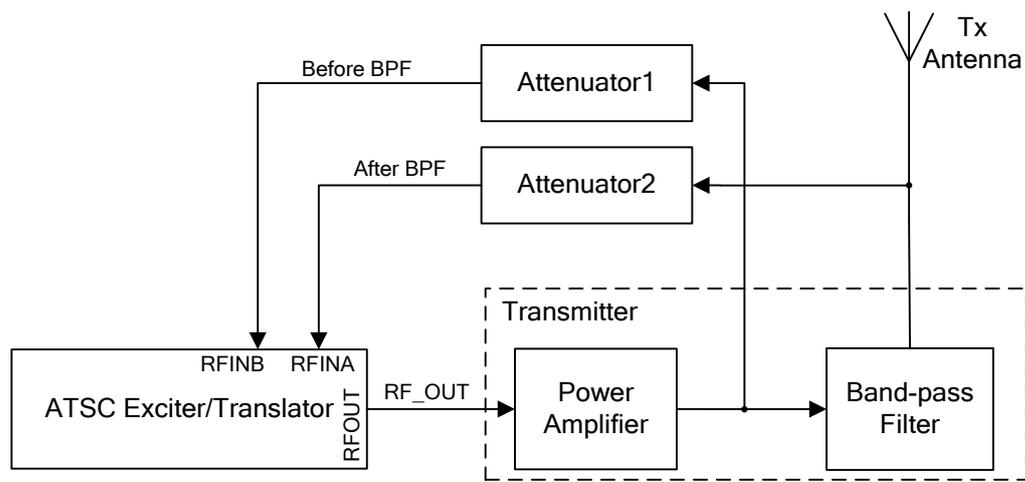

Figure 1 Connection with Transmitter of UPDATE Function
- 2) If the signal level is within the range, connect the transmitter's output which is *before the* band-pass filter to port [RF_IN_B] and another output which is *after* band-pass filter to port [RF_IN_A] respectively. Figure 1 below demonstrates the correct connection.